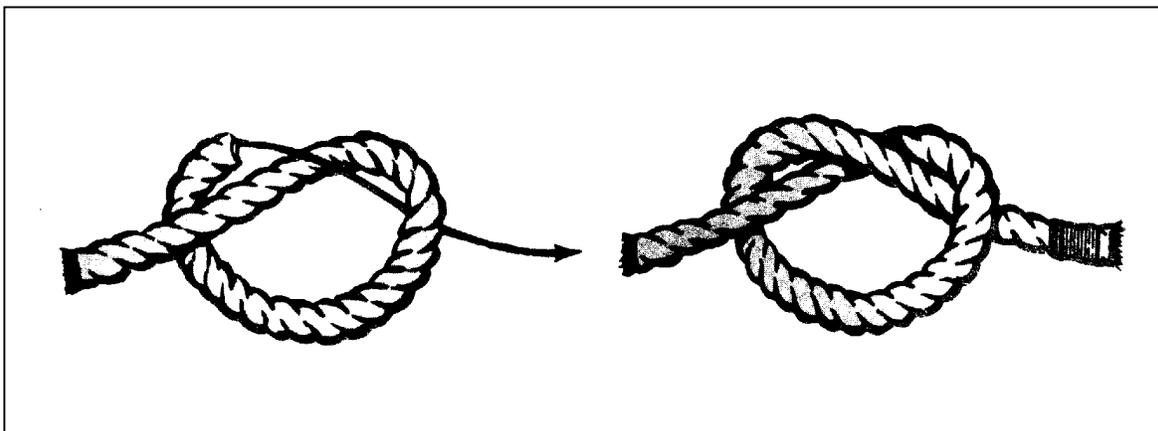

Figure 11-1. Overhand knot
a. Overhand Knot. The overhand knot (Figure 11-1) is the easiest knot to make and the most frequently used knot. It is used to keep the end of a tent line from slipping through the center of a grommet.
b. Footstop for a Single-Grommet Fastening. A footstop for a single-grommet fastening (Figure 11-1), is a loop in a line that slips over a footstop pin at the bottom of a tent. It is formed by tying the two ends of a footstop line in a single overhand knot.
c. Footstop for a Two-Grommet Fastening. A footstop for a two-grommet fastening is formed by tying an overhand knot, (Figure 11-1), at each end of a footstop line.